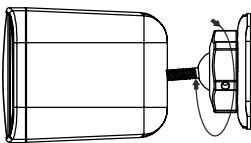

figure 4
Screw the locking nut (3) but not fully tight yet. See figure 4. Angle the loudspeaker to obtain the desired orientation. Once the angle is final, fully tighten the locking nut, but do not over tighten.